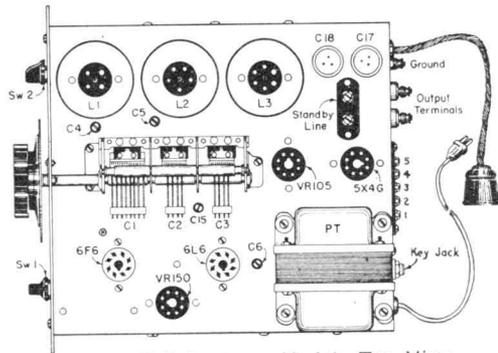

Fig. 2. 1941 De Luxe Model—Top View
Place all tubes in their respective sockets, as shown on Figure 2. Place one complete set of coils, preferably that of the highest-frequency band to be used, in their respective sockets.
• When 160 meter coils are used in the Signal Shifter, the instrument MUST BE NEUTRALIZED. This is readily accomplished in the following manner. Turn the front panel switch to "Stand-By"; then carefully adjust the neutralizing condenser (C-15 on Fig. 2), using a long screwdriver inserted through the chassis hole indicated. Adjust for minimum glow in a small neon bulb held on the output coil winding (L-3 in Fig. 2). A neon bulb is a good indicator for determining the condition of neutralization, since with the front panel switch in "Stand-By" position and the keying circuit CLOSED (Key down), almost no glow should be visible when the 6L6 is neutralized. If a bright glow does occur, adjust the condenser (C-15) until the neon bulb goes out or becomes dim.